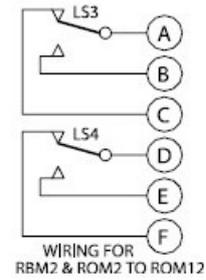

Figure 6: LS3/LS4 in wiring diagram
- .....the contact of LS4 is closed (voltage 24VDC on Terminal E, see Figure 6)
- .....the contact of LS3 is closed (voltage 24VDC on Terminal B, see Figure 6)